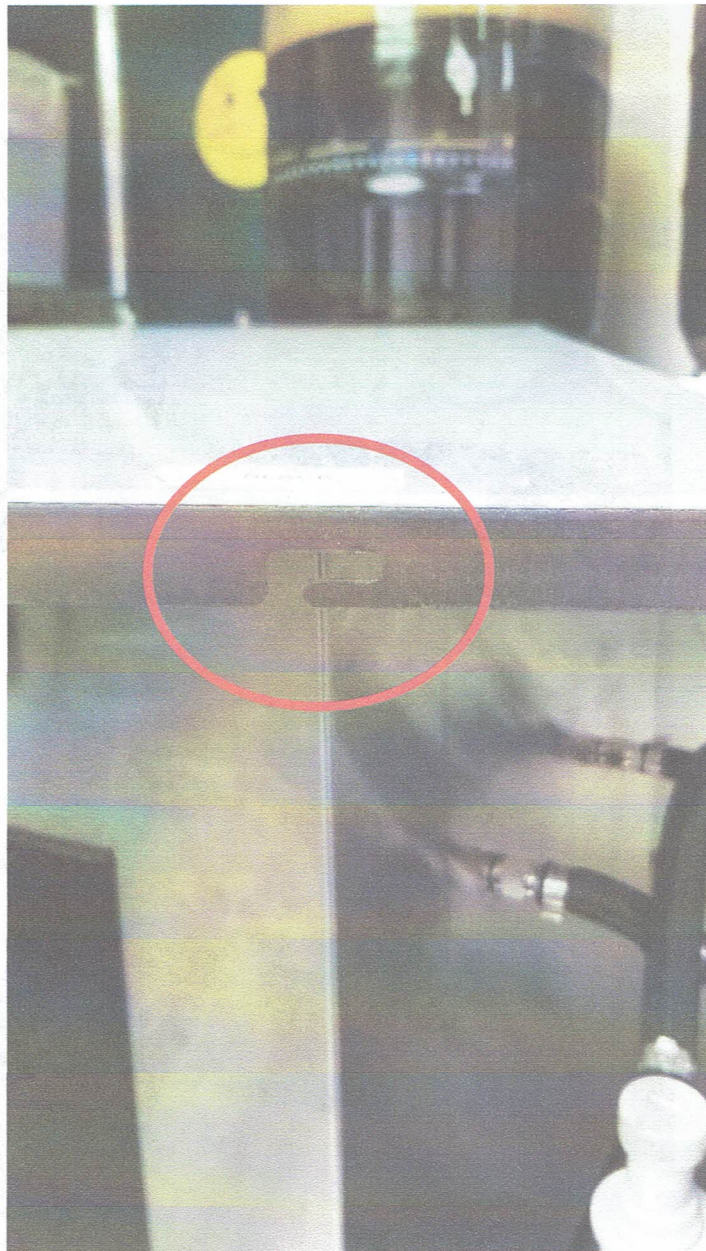

Figure 4
10. The upper panel is slotted, so to remove, gently slide the upper panel back so it is off the front panel studs and rotate up and out of the way. See Figure 4.